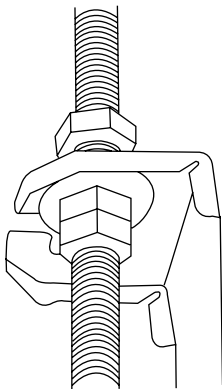

Fig. 4.9
6. Mount the indoor unit with at least two people to lift and secure it. Insert suspension bolts into the unit's hanging holes. Fasten them using the washers and nuts provided. (See Fig. 4.9)